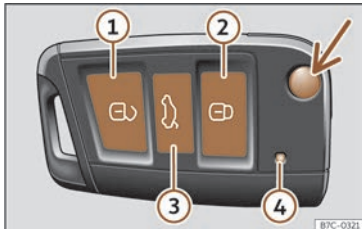

Fig. 42 Vehicle key
To fold and unfold the key blade, press the button >>> Fig. 42 (arrow).
When a button is pressed briefly on the vehicle key, the control lamp ④ >>> Fig. 42 flashes once briefly, but if pressed for a long period of time, it will flash several times, for example, in the convenience opening.